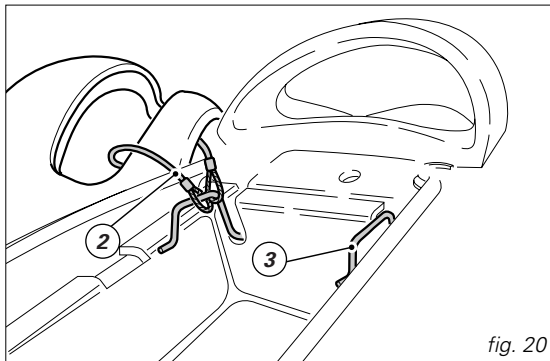

fig. 20
On the rear end of the compartment underneath the seat, there is the helmet fastening cable (2) (see page 42). Insert the cable into the helmet and insert the ends of the cable into one of the two hooks (3). Leave the helmet hanging outside (fig. 20) and refit the seat.